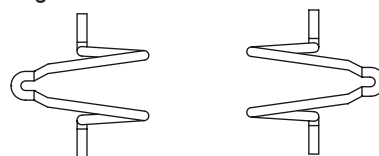

Fig. 32
- Pair of connector retention clips HZZ01209-G; see fig. 32